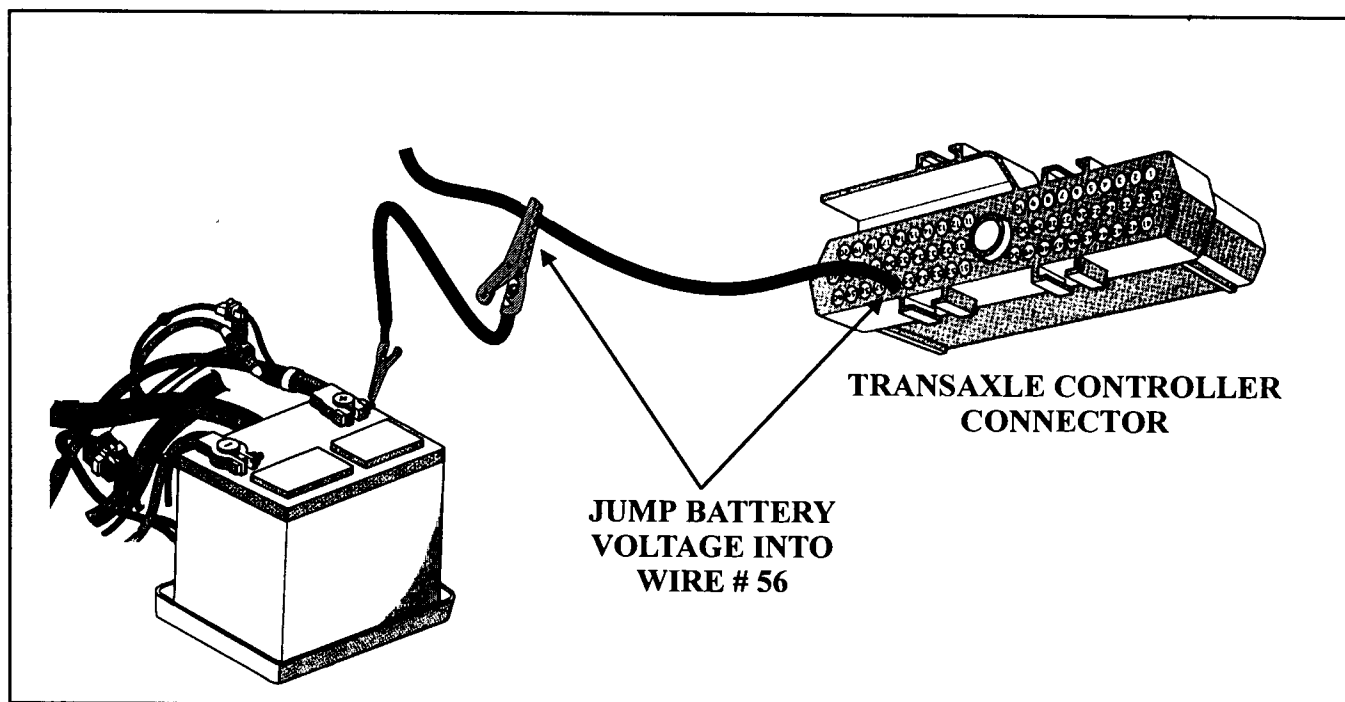

Figure 14
**CORRECTION:** First replace the EATX relay with a known good relay (Refer to pages 8-10 for relay location). If the problem remains, a quick method to verify a bad fuse or fusible wire is to locate wire 56 at the TCM. Carefully remove some of the insulation from the wire and connect battery voltage to the wire with a jumper wire (See Figure 14). Once connected, if all symptoms are removed, a defective fuse or fusible wire is the problem. To assist on locating the defective fusible link, all fusible links are color coded and can be found below and between the battery and driver side spring tower (See Figure 8). Refer to the chart in Figures 9 and 10 which cross references the fusible link color identification to the vehicle make and year.